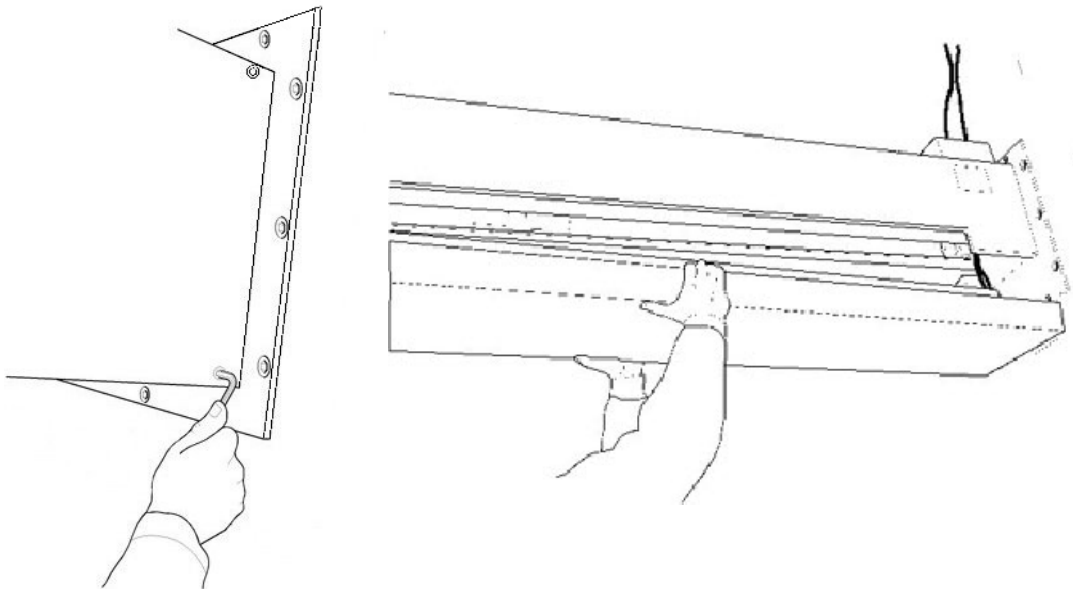

Fig. 5-18 Removing upper safety guard
6. Unbolt the upper safety guard taking care to remove it first from the base and lifting as shown in Figure 5-18.